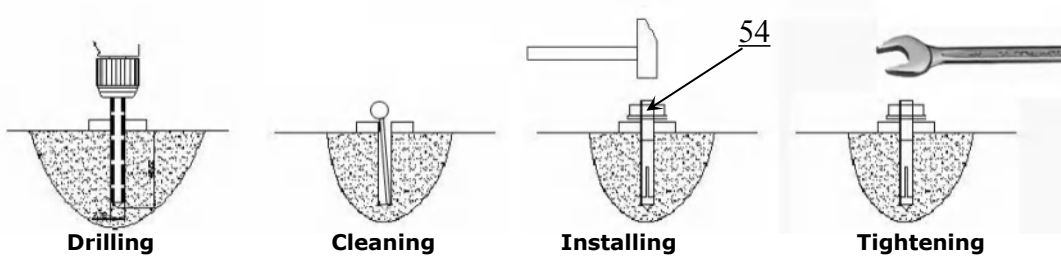

Fig. 25
3. Install the control cabinet anchor bolt (**See Fig. 25**)